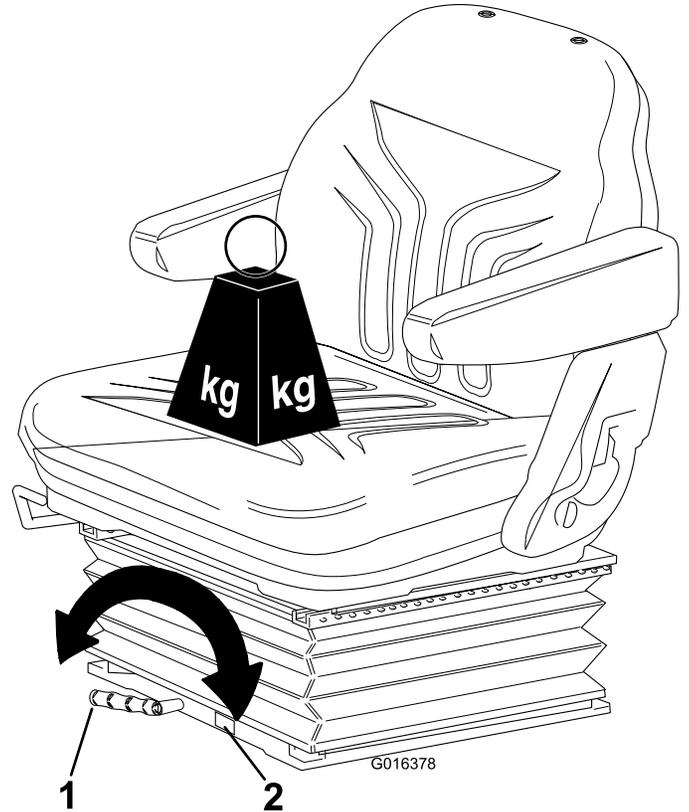

Figure 23
- Rotate the handle clockwise to increase suspension stiffness and counterclockwise to decrease the stiffness (Figure 23).